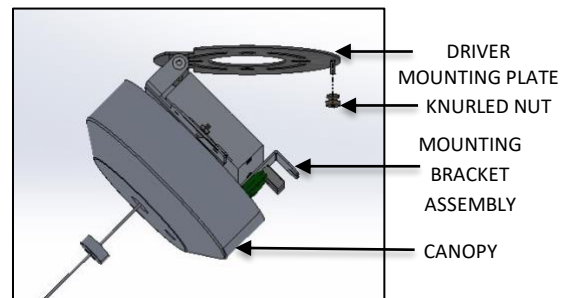

FIG. 11 – MOUNTING PLATE DIS-ASSEMBLY
2. Unscrew the KNURLED NUT securing MOUNTING PLATE to driver MOUNTING BRACKET. Swing driver mounting bracket down and out of the way as shown below in FIG. 11.